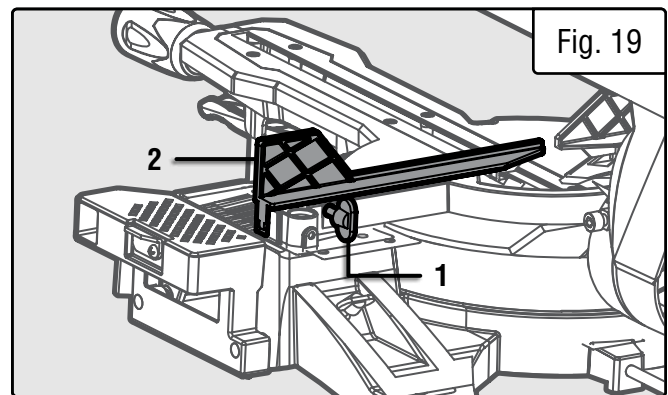

Fig. 19
1. Loosen the fence adjustment knob (Fig. 19 - 1).
2. Adjust the fence as desired. The top portion of the fence (Fig. 19 - 2) can slide to the left and right, while the bottom portion of the fence stays stationary.